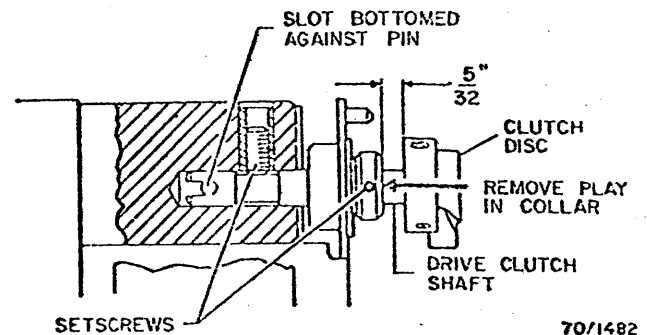

Fig. 3-126. Installation of Drive Clutch Shaft
1. Install drive clutch shaft as shown in Fig. 3-126.
2. Loosen shaft and collar setscrews and push shaft to bottom the slot against pin shown in Fig. 3-126.